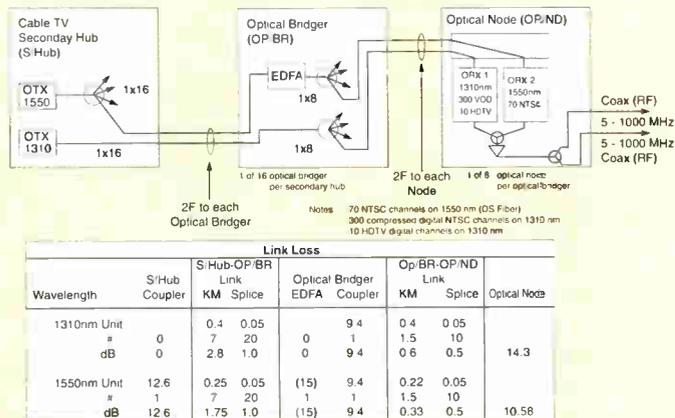

Figure 6
The 1550 nm laser is a very narrow linewidth, potentially externally modulated laser that will launch all 70 standard AM-VSB NTSC signals onto the dispersion shifted (DS) fiber that transports the signals to the optical node. There they are detected and combined with the VOD and HDTV signals as shown in Figure 6.^{5,6,7,8,9} The combined RF signal is then transmitted through a passive coaxial network similar in topology to Figure 3.